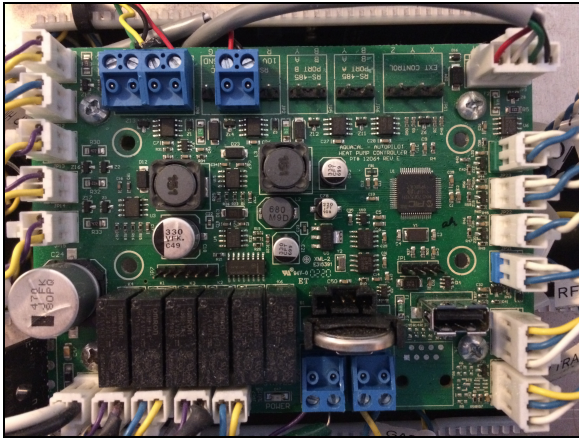

Figure 1 - HP9 Board
1. Heat Pump with an HP9 Control Board. See Figure 1.